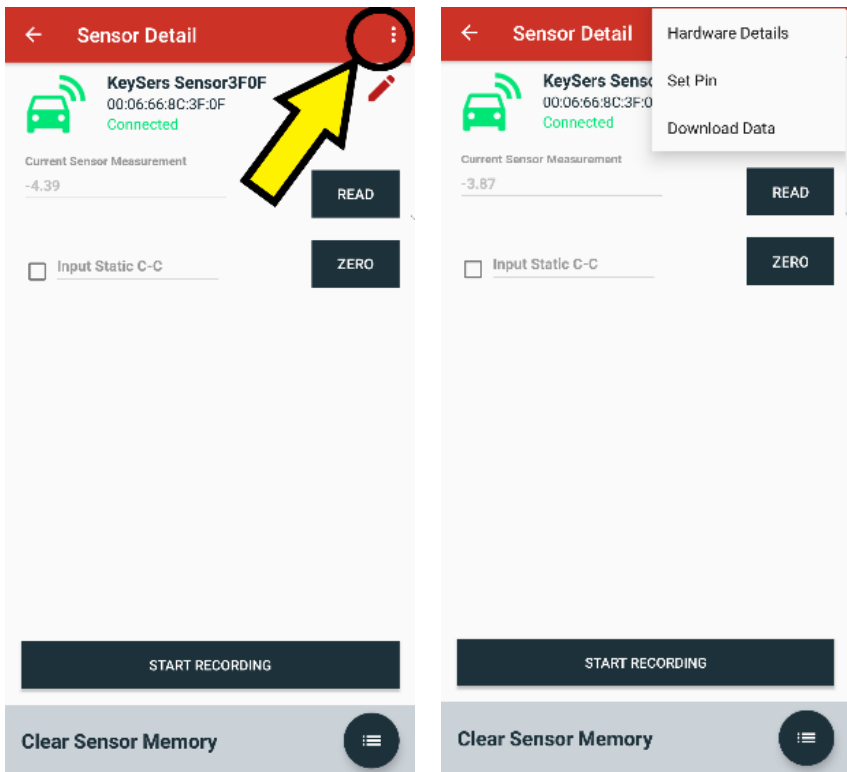
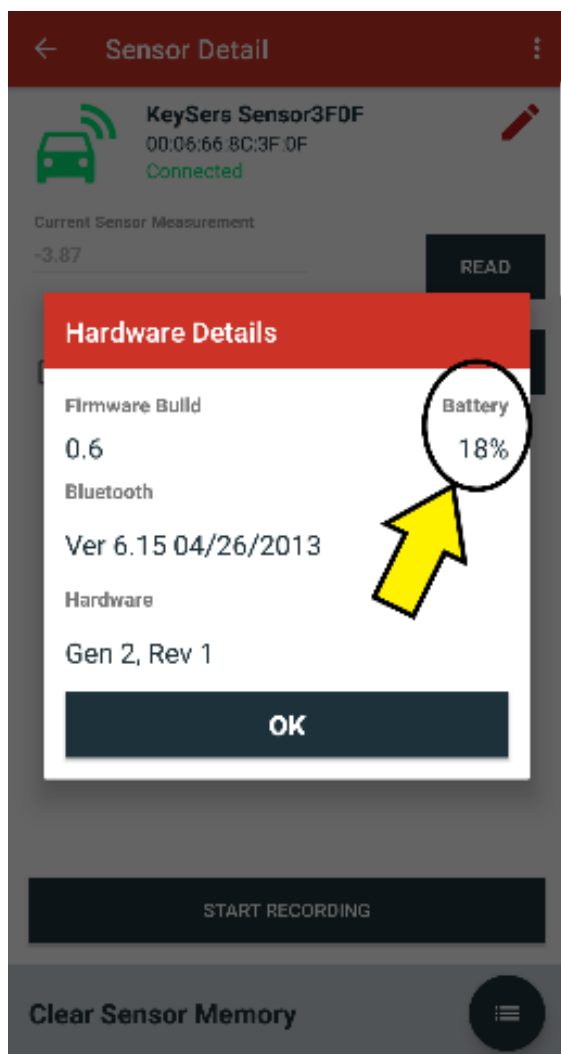

Figure 10: Upper right icon selection (Left), drop-down menu (Right)
Figure 12: Hardware details menu
- This pin can be manually changed for privacy by touching the upper right icon in the “Sensor Detail” menu found in Figure 10.
- “Hardware Details” can also be selected in the drop-down menu from Figure 10 that provides details on the battery life of the sensor found in Figure 12.